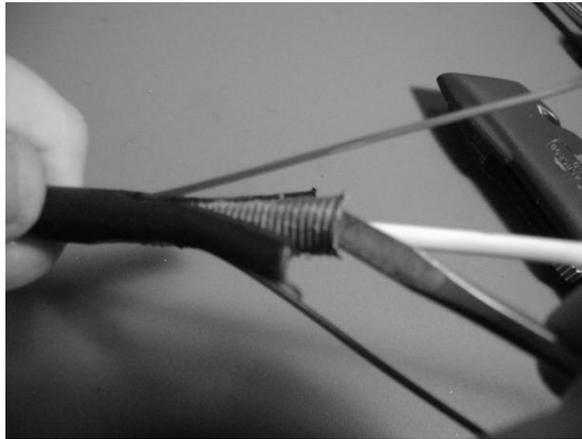

Figure 11 – Separate the armor overlap and lift the armor.
3.3 Trim the armor even with the outer cable jacket. Lift the two halves of the outer jacket to expose the armor layer. Separate the armor overlap and lift the armor from the core tube as shown in Figure 11.